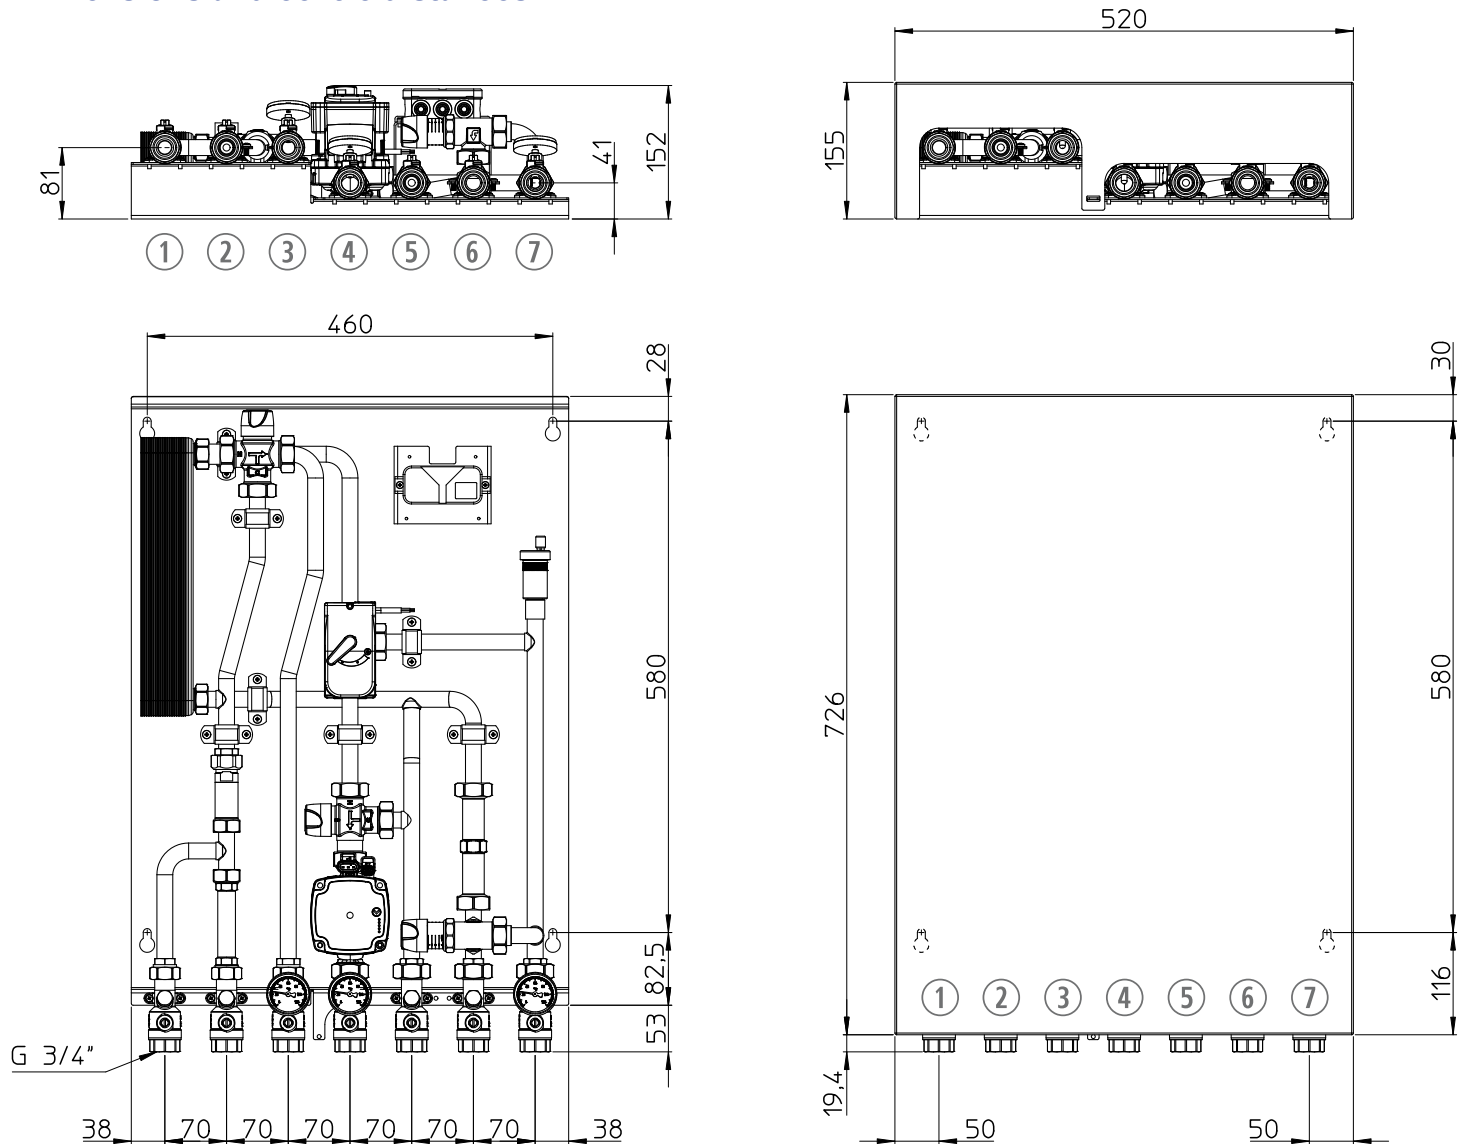

Fig.1 - Module wall installation scheme, dimensions and significant centre distances.
- ✓ Identify and mark the position of the 4 holes to be made on the wall according to the scheme in Fig. 1.